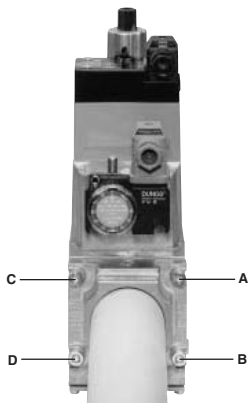

Fig. 27
- 1 Remove the screws **V1** and **V2** as shown in Fig. 27.